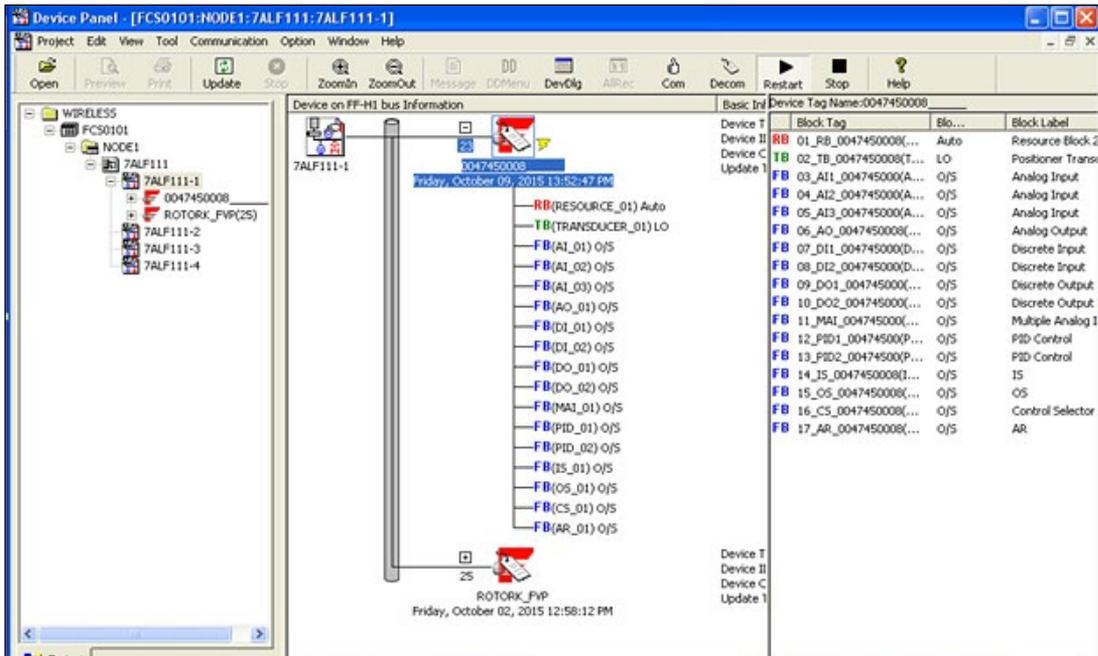

Figure 87 - Device Addresses
2. Click on the plus sign above the device address that appears in the list of device blocks and their mode (Figure 87).